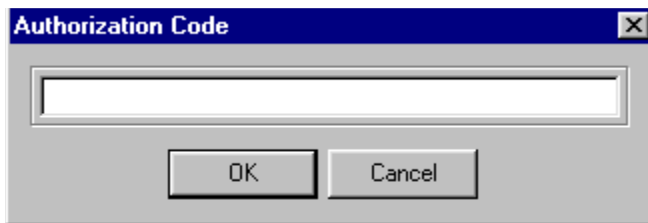

Figure 32: Authorization Code Dialog
- When the Authorization Code dialog opens, see *Figure 32*, enter the auth code and select OK